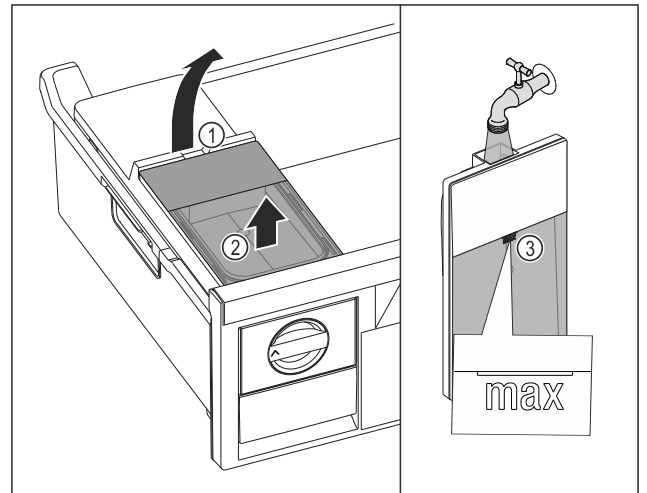

Fig. 81
- ▶ Lift the water tank at the recess Fig. 81 (1).
- ▶ Remove the water tank by lifting it upward. Fig. 81 (2)
- ▶ Fill the water tank with drinking water up to the mark Fig. 81 (3).